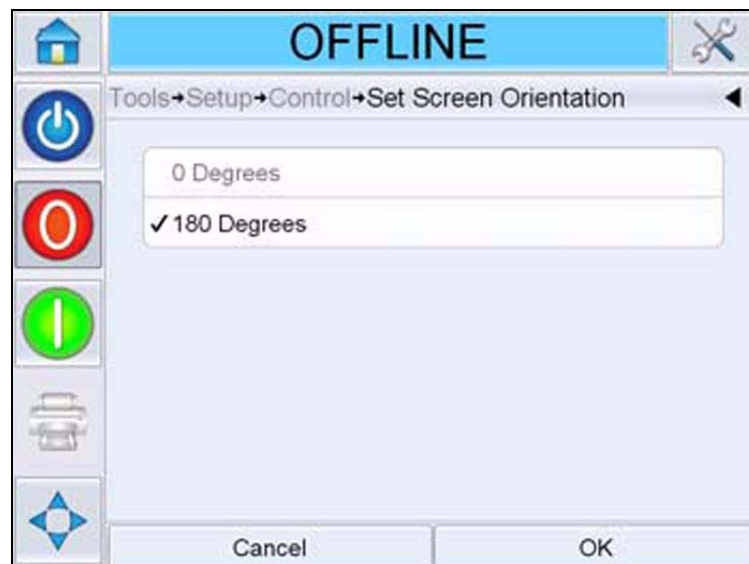

Figure 5-9: Set Screen Orientation
- 2 Touch *Set Screen Orientation* from the list. *Set Screen Orientation* page appears (Figure 5-9).